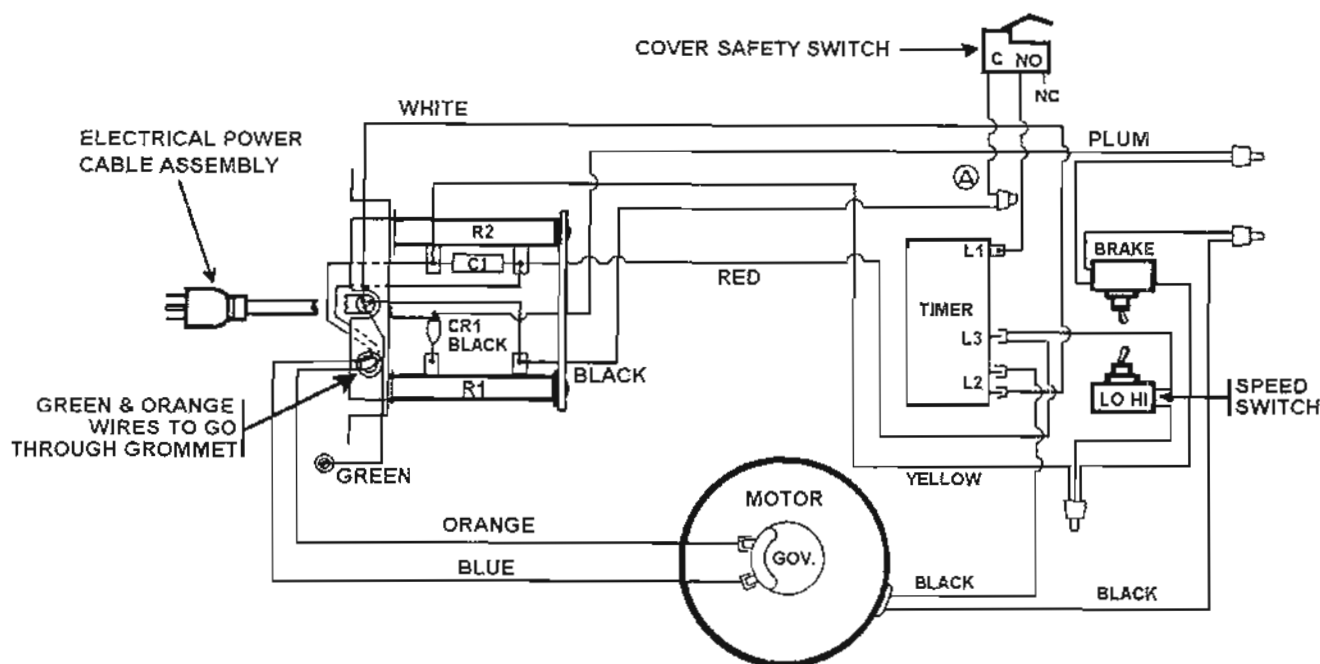

Figure 3-3. Wiring diagram.
a. The wiring diagram for the centrifuge is provided in figure 3-3 to assist you when troubleshooting. Isolate the problem to a functional segment of the circuitry.